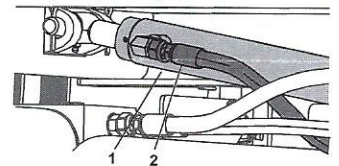

Figure 13
- Place a large drain pan under the hopper lift cylinder (Figure 13).